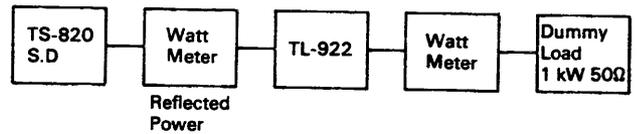

Fig. 15 Equipment Connection
- a. Connect the exciter to the linear amplifier according to Fig. 15.
- a. Connect equipment according to Fig. 15.
- a. Interconnect according to **Fig. 15**.